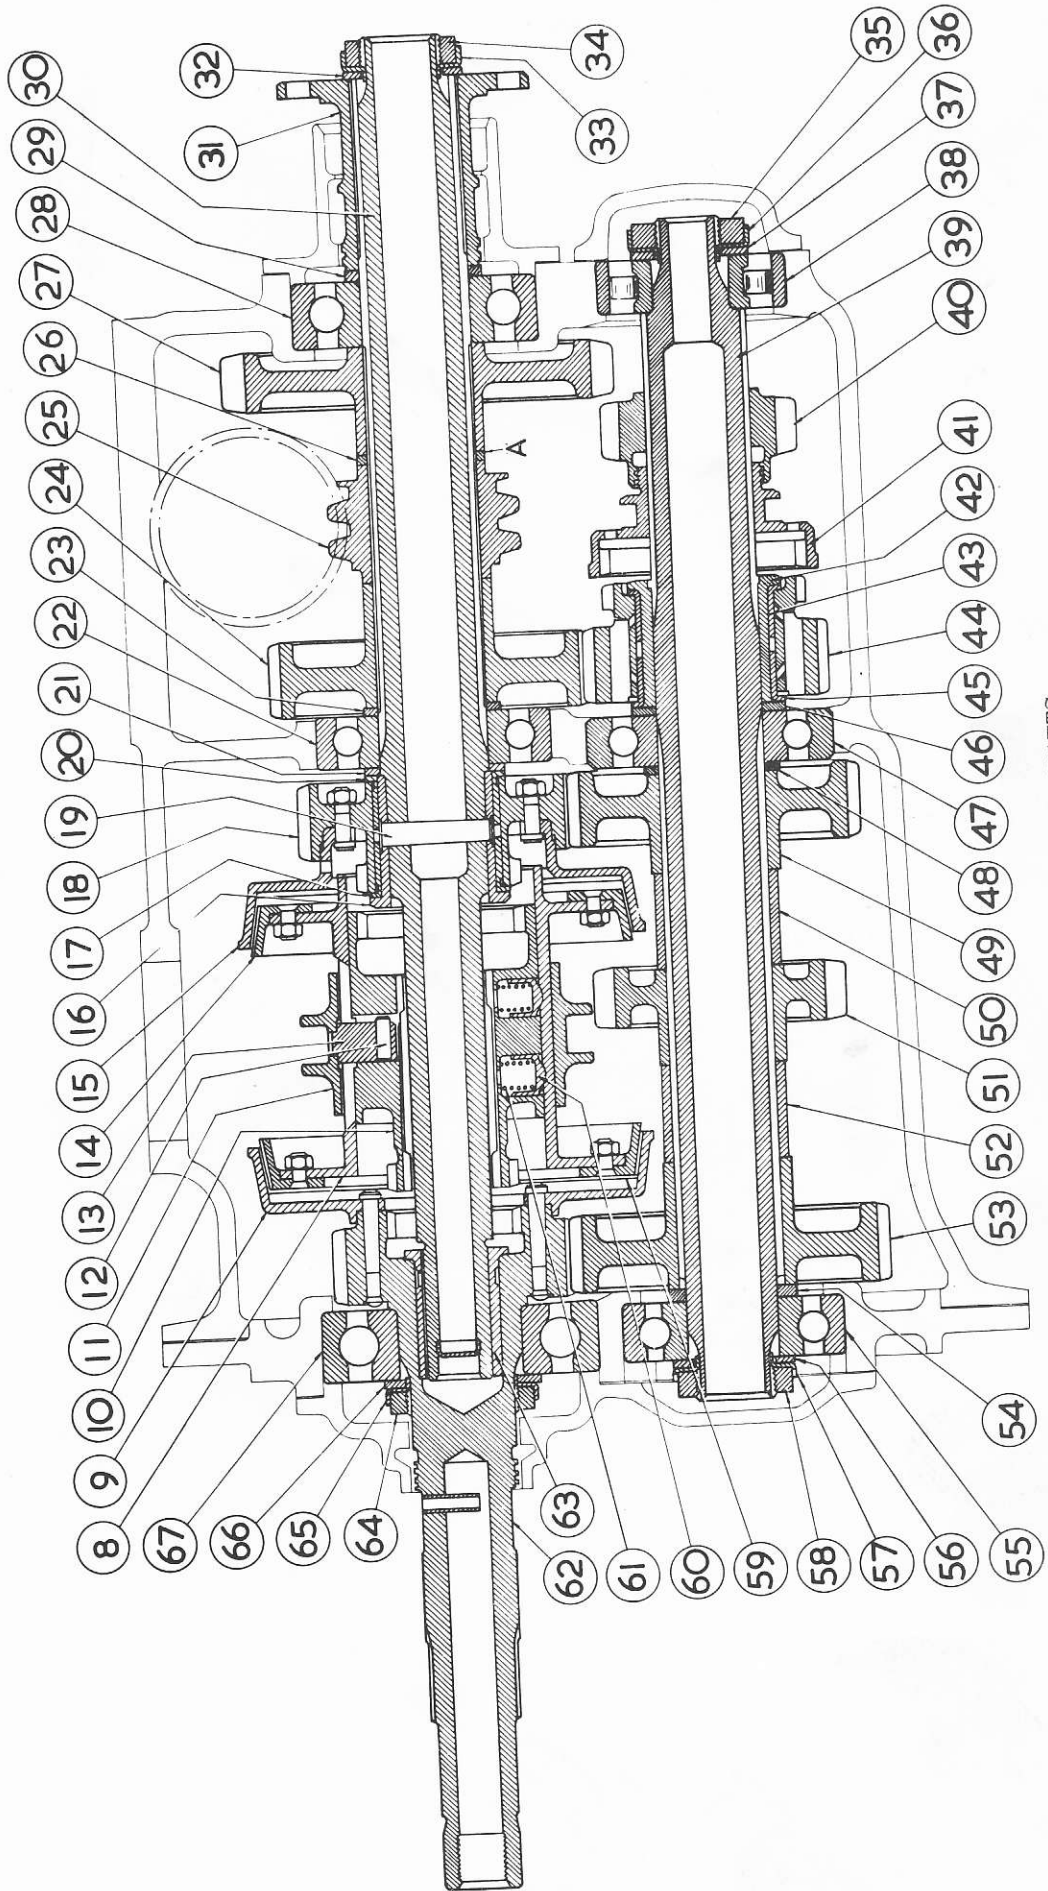
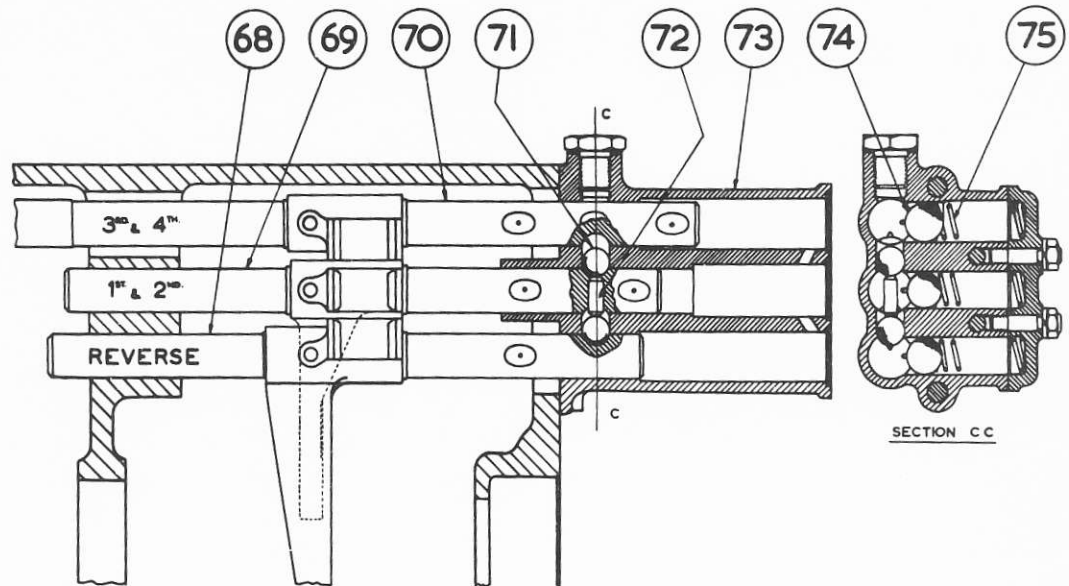

FIG.2. SECTION - 1ST, 2ND AND 3RD MOTION SHAFTS.
FIG. 3. SECTION - SELECTOR SHAFTS &amp; INTERLOCK MECHANISM.
(54 Fig.2)
(48 Fig.2)
(50 & 52 Fig.2)
(23 Fig.2)
(26 Fig.2)
(29 Fig.2)
- a) Place a circular lever (about 14" long x 7/16" dia.) through the aperture at the top of the front end of the gearbox, enter the lever in the stirrup groove of the 3rd and 4th speed actuating sleeve (11 Fig.2) and push the sleeve towards the rear of the gearbox to engage the 3rd speed gear.
- (xv) Remove the retaining nut, 34 Fig.2 (R.H.thread) from the rear end of the 3rd motion shaft, collect the clamping washer (32) and withdraw the coupling flange (31) from the shaft.
- (xvi) Remove the gearbox support bracket from the rear of the box and the cover for the 3rd motion shaft complete with oil drain pipe (if the latter is fitted). Remove the adjusting washer (29) and TIE it to the coupling flange.
- (xvii) Remove the cover (secured by 11 nuts) from the front end of the gearbox, collect the thin metal oil baffle adjacent to the ball bearing of the 1st motion shaft and the aluminium distance piece adjacent to the ball bearing at the front end of the 2nd motion shaft. Remove the nut, 58 (R.H.thread) from the front end of the 2nd motion shaft and collect the clamping washer (56).
- (xviii) Remove the nut, 64 (L.H.thread) from the 1st motion shaft and collect the clamping washer (66).
Continued:Notation List for Fig.2.
(xix) Remove the spring loaded cover (secured by 2 nuts) from the bronze plunger housing at rear of gearbox and the three springs (75 Fig.3).
- (i) To dismantle, remove the four 2-BA nuts and bolts securing the two halves of the actuating sleeve (11 Fig.2) and remove the two operating cams (13) from the sliding piece (10) and collect the two pins (12) if free.
- (ii) Push the sliding piece out of the outer member (8), taking care not to lose any of the six or eight plungers and springs. This may be avoided by wrapping a piece of cloth around the outer member prior to removal of the sliding piece.
- (iv) If the circular portion at the upper end of the two operating cams (13) where they locate in the actuating sleeve, are worn, new cams should be fitted.
When re-assembling, discard all old tab locking washers, aluminium washers, Vellumoid and red fibre (or "Oakenstrong") joints. If the 1st speed gears are noisy due to wear of the teeth beneath the hardened surface, opportunity should be taken to fit a new driver and driven gear (40 & 27 Fig.2), Part No.GB-435 and GB-430, otherwise the small particles of metal which disintegrate from worn gears will be carried around in the oil and may cause damage to the teeth of other gears and the bearings.
NOTE: When re-assembling the parts to the 2nd motion shaft, the gears must be placed the correct way round and the various washers positioned as shown in Fig.2.
NOTE: When re-assembling the parts to the 3rd motion shaft, the gears must be placed the correct way round (this does not apply to the worm gear 25) and the various washers positioned as shown in Fig.2.
- (i ) Hold the front end of the shaft horizontally in a vice. Fit two new bronze bushes (17 & 20) to the 3rd speed constant mesh gear (18) as described in sub-para.(i) for the 2nd motion shaft.
- (ii ) If the adjusting washer (23) is worn, measure the thickness on the unworn portion and fit a new washer of the same thickness.
- (iii) With the gear (18) and the thrust washer (21) in position, fit the remaining ball bearings, gears, washers and the driving flange (31) to the shaft including the clamping washer (32); omitting the lockwasher (33) at this stage.
- (iv ) Tighten up the retaining nut (34) and again check the constant mesh gear (18) for freedom, if not free, this will be due to excess of "nip" on the rear face of the driving flange (31) causing the thrust washer (21) to exert a slight load on the bushes. Remove the adjusting washer (26), and fit a washer of a thickness that will allow the end face of the driving flange to stand out .003" beyond the ends of the splines of the shaft to give the required nip when the retaining nut is fully tightened up. Conversely, if after tightening up the retaining nut, the 1st speed driven gear (27) has end float, however small, proceed as follows:-
- a) Select a feeler gauge which can just be inserted between the washer (26) and the gear (27) i.e. at point 'A' Fig.2.
- b) With the adjusting washer (23) still in position, enter the shaft at the front end of the gearbox and engage the gear (24), the worm gear (25), the washer (26), this washer must be placed at the REAR END of the worm gear, (as shown in Fig.2) and the gear (27).
- c) Continue to push the shaft rearwards simultaneously engaging the constant mesh gear (18) with the constant mesh gear (49) on the 2nd motion shaft; line up the centre ball bearing (22) with its housing in the gearbox and tap the shaft into position until the ball bearing is centrally located in the housing.
- d) Fit the rear ball bearing (28) followed by the washer (29); greasing the latter to keep it in position.
- (vii) Next, place No.1 distance piece (50) on the 2nd motion shaft.
- (viii) Slide the reverse driving gear (51) on to the end of the 2nd motion shaft, hold this gear with the left hand and the 3rd and 4th speed synchromesh assembly with the right hand and manoeuvre the synchromesh assembly on to the 3rd motion shaft, the gear (51) will then be about midway between the two bronze cones. The synchromesh assembly should be positioned so that the external teeth of the sliding piece (10) face towards the front of the gearbox.
- (x) Place No.2 distance piece (52) on to the 2nd motion shaft.